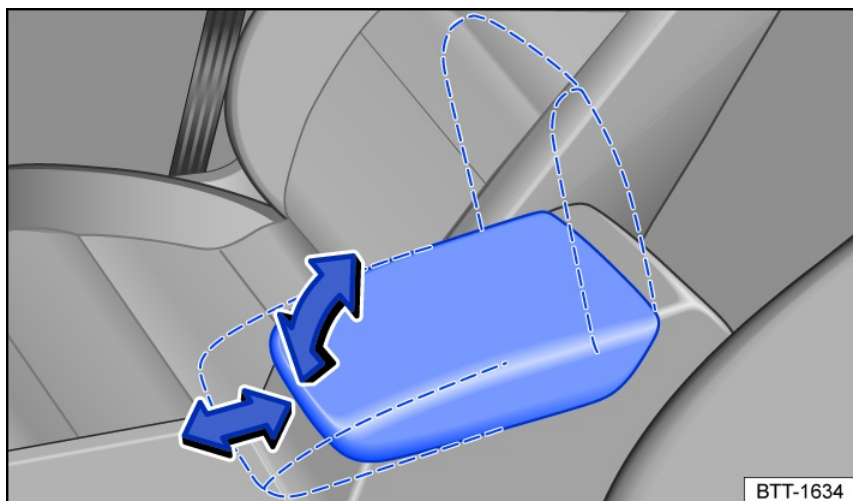

Fig. 91 Front center armrest (variant 1).
- To *raise* the center armrest, pull it upwards from detent to detent in the direction of the arrow fig. 91.
- To *adjust laterally*: Slide the center armrest fully forwards fig. 91 or fully backwards in the direction of the arrow.